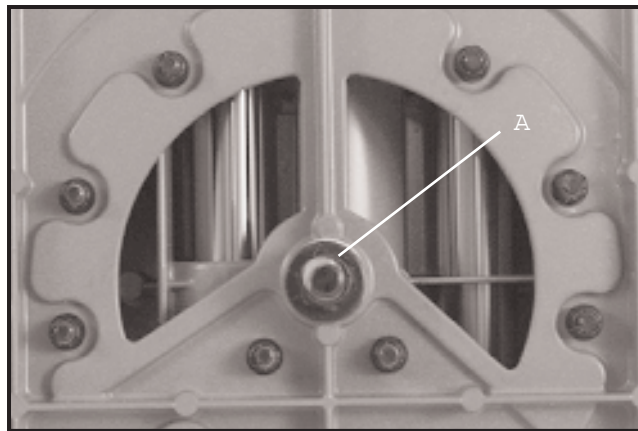

Fig. 18
If it ever becomes necessary to adjust the sliding fit between the movable table and the base, turn nut (A) Fig. 18, clockwise to increase or counterclockwise to decrease the sliding fit. This adjustment should not be too tight that it restricts the rotating movement of the table or too loose that it affects the accuracy of the saw.